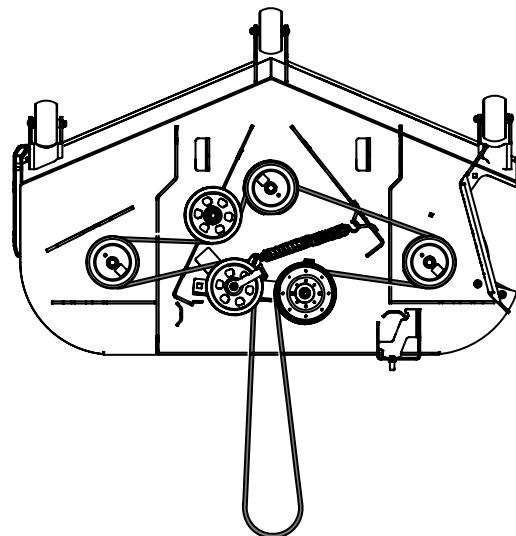

Figure 56
8. Route the belt as shown in Figure 56. tighten and secure the idler arm hardware.